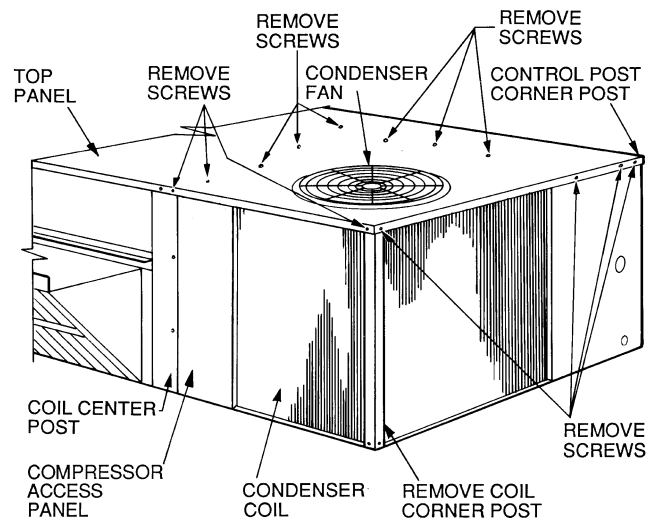
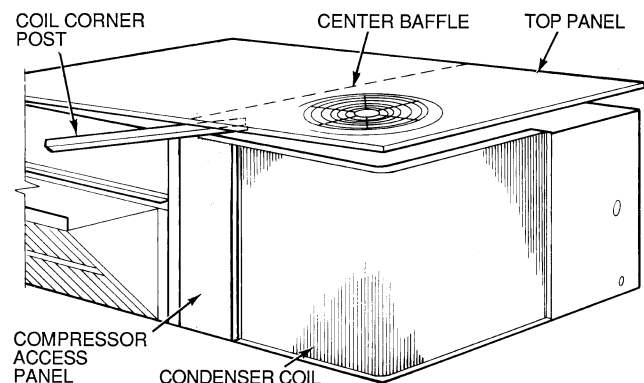

Fig. 42 — Cleaning Condenser Coil
Fig. 43 — Propping Up Top Panel
3. Remove condenser coil corner post. See Fig. 42. To hold top panel open, place coil corner post between top panel and center post. See Fig. 43.